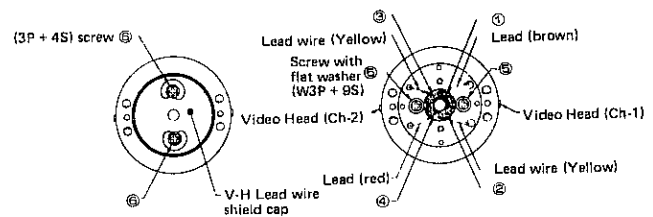

Figure 27.
5. The height of the AC head should be positioned with regard to the tape as shown in figure 27.
1. Fit a replacement drum as shown in figure 27, taking care to correctly position the respective leads.